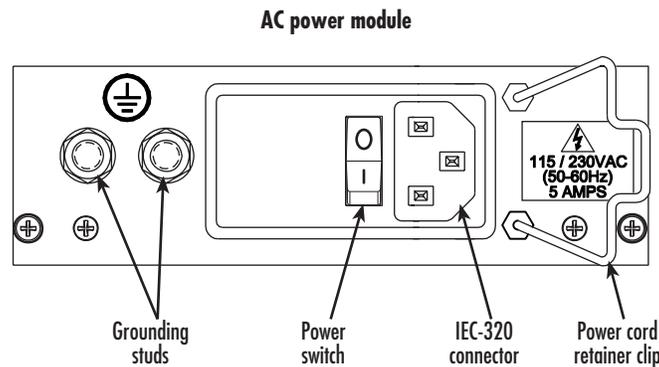
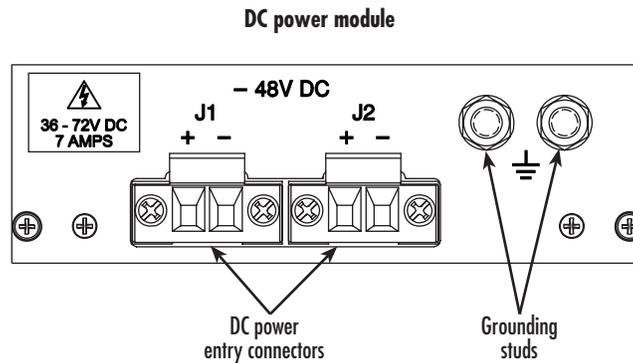

Figure 13. IEC-320 connector and grounding stud locations
Figure 14. DC connector, -DC and +DC input view
1. Install a power cable into an IEC-320 connector (see figure 13). The AC main socket outlet shall be within 3 meters of the equipment and shall be easily accessible.
2. Rotate the power cable retainer clip (see figure 13) so it secures the power cable plug in the IEC-320 connector.
- Install the ground wire between the grounding studs (see figure 13 on page 36 for AC power entry, or figure 14 on page 37 for DC power entry) and the grounding source.